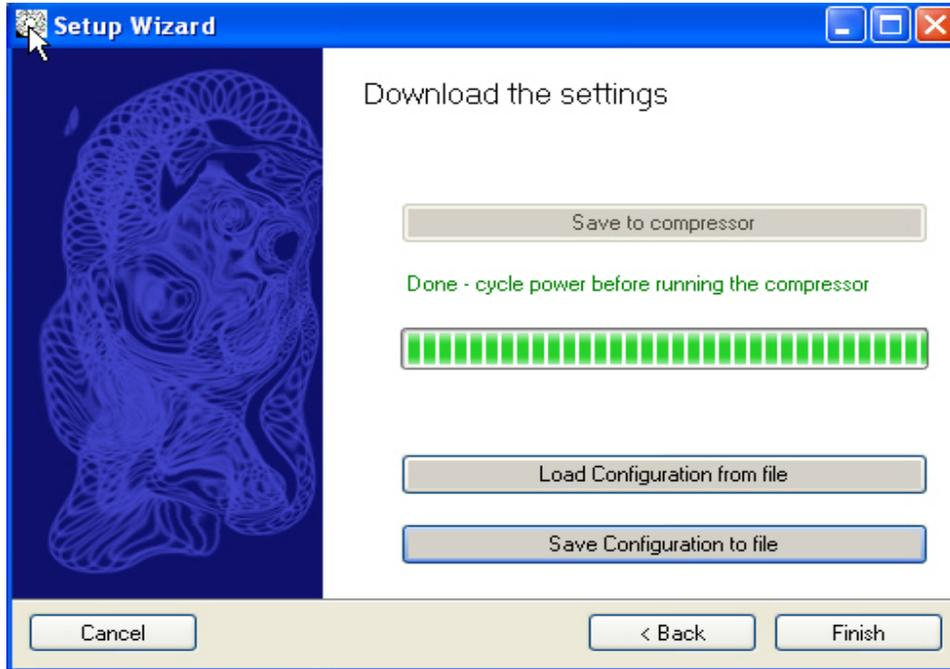

Figure 46 Download Settings Window (After Download)
2. When the message “Done. Cycle power before running the compressor” appears, **turn OFF power to the compressor** (see Figure 46). Wait at least 5 minutes, then **check that the LEDs on the Backplane and/or compressor I/O Board are OFF**.
5. When the message "Done. Cycle power before running the compressor" appears, **turn OFF power to the compressor** (see Figure 46). Wait at least 5 minutes, then **check that the LEDs on the Backplane and/or Compressor I/O Board are OFF**.